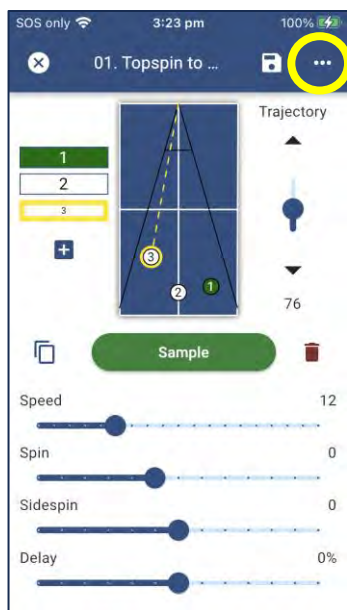

Figure 3-45
2. From the Drill edit screen, press the drop-down Menu button “...” from the top-right corner. (Figure 3-45)